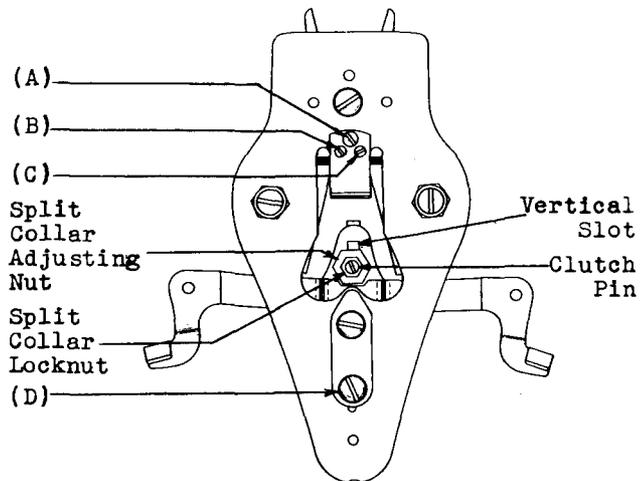
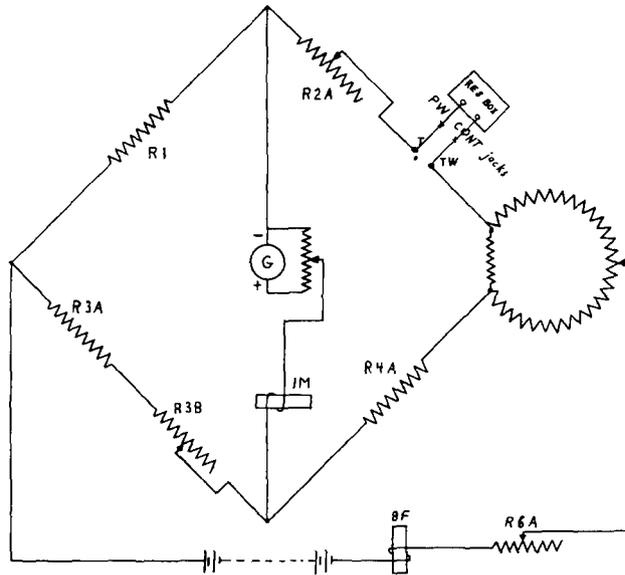

Fig. 10 - Balancing Mechanism
Fig. 14 - Bridge Circuit
(1) Balance: Stop the controller as covered in paragraph 3.004. Remove the galvanometer as covered in paragraph 3.02 (4). With the galvanometer removed start the controller by releasing the BF relay. Observe the operation of the controller to see if the clutch disc moves. If there is any movement of the clutch disc proceed as follows: Stop the controller as covered in paragraph 3.004. Loosen screw (A) (Fig. 10) a slight amount using the KS-6854 screwdriver. If the clutch disc moved in a clockwise direction (dial moving toward zero) turn screw B a very slight amount in a counterclockwise direction and turn screw C the same amount in a clockwise direction. If the clutch disc moved counterclock-
(2) Clearance: Remount the galvanometer as covered in paragraph 3.02(5). Start the controller and then stop it so that the straight edges of the sweep cams extend vertically upward. By means of the zero adjusting screw (Fig. 1) set the galvanometer pointer in the center of the space between the setting levers. Start the controller and stop it when the setting levers are free from the operating cam. Observe if there is any clearance between the pointer and the setting levers or between the clutch arm split collar and the setting levers. If there is any clearance, loosen the split collar locknut (Fig. 10) using the 43 tool and turn the split collar adjusting nut using the 418A tool until there is no clearance. Tighten the locknut. After this adjustment repeat the test for balance as covered in paragraph 3.05(1). If balance readjustments were necessary then recheck for clearance. If while making the adjustment for clearance the clutch pin should inadvertently become loosened in its vertical slot so that its position is shifted, it should be repositioned at the center of the vertical slot.
(3) Pressure: If the setting levers fail to meet the pressure requirements, remove the balancing mechanism as covered in paragraph 3.01(7) and with the aid of the tweezers replace the spiral
- (1) Stop the controller as described in paragraph 3.004. Connect the resistance box to the PW CONT jacks (Fig. 14). Strap the bridge circuit resistances to obtain the values given in the requirement table.
- (2) Start the controller and allow it to come to a balance. Increase the resistance in the resistance box by 2 ohms and closely observe the swing of the pointer immediately before and immediately after the rebalancing action. Adjust the galvanometer sensitivity control so that immediately after each rebalancing movement due to a 2 ohm increase the pointer will swing through zero to a distance equal to 1/2 to 3/4 of the immediately preceding deflection.
- (3) If difficulty is experienced or if it is not possible to obtain this condition by adjustment of the galvanometer sensitivity control it may be necessary to change the position of the clutch pin (Fig. 10) in its vertical slot. To do this stop the controller and holding the split collar adjusting nut steady with the 418A tool, loosen the split collar locknut with the 43 tool and remove this locknut. With the KS-6854 screwdriver loosen the clutch
(1) Stop the controller as described in paragraph 3.004. Connect the resistance box to the PW CONT jacks (Fig. 14). Strap the bridge circuit resistances to obtain the values given in the requirement table.
(2) Start the controller and allow it to come to a balance. The dial reading should be  $30 \pm 1$ .
(3) If the requirement is not met it means that the angular relation between the slide wire and the dial needs adjustment. Make certain that the clutch is disengaged and then rotate the slide wire an amount sufficient to make accessible one of the screws which mount the dial on the slide wire. Loosen this screw a trifle and then rotate the slide wire so as to make the other mounting screw accessible. Loosen this second mounting screw also and shift the angular position of the dial with respect to the slide wire a sufficient amount to meet the requirement. Tighten the mounting screws securely and recheck the requirement.
(2) Start the controller and adjust the resistance in the resistance box until the controller balances at a dial reading of 30. Note the value of the resistance box setting.
(3) Stop the controller. Make certain that the clutch is disengaged, then turn the controller dial until its reading is 5. Start the controller and adjust the resistance box so that the controller comes to a balance with a dial reading of 5. Note the difference between the resistance box setting for the controller dial reading of 5 and for the reading of 30.
(4) Stop the controller. Make certain that the clutch is disengaged, then turn the controller dial until its reading is 55. Start the controller and adjust the resistance box so that the controller comes to a balance with a dial reading of 55. Note the difference between the resistance box setting for the dial reading of 30 and the reading of 55. This difference should be within 3 ohms of the difference obtained in paragraph (3).